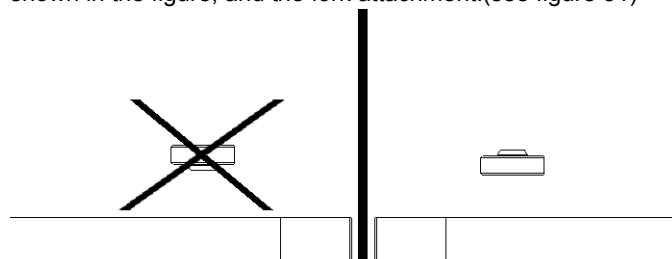

figure 31
- 9 Replace the float, taking care to respect the orientation shown in the figure, and the fork attachment.(see figure 31)